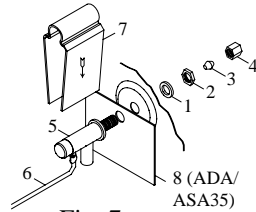

Fig. 7
- **Install float valve and fill pan.** Refer to Fig. 7. Remove items 1, 2, 3, and 4. Insert float body (5) through hole in splash plate (8) (ADA/